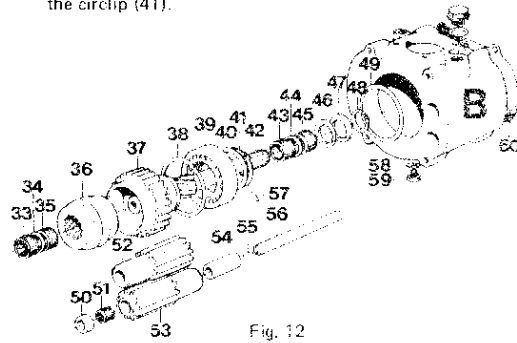

Fig. 12
1. Fit the circlip (38, Fig. 12) in the housing.
2. Press the bearing (39) into the housing with drift 884500.
4. Press the gear wheel (37) in the bearing (39) with drift 884263. NOTE! Counterhold 884488 must be placed against the bearing inner race. Make sure when doing so that the gear wheel teeth mesh with the teeth of the planetary gear.
5. Shims (40) are available in two thicknesses: 0.05 mm and 0.50 mm (0.002 and 0.02"). Add a sufficient number of shims to remove all clearance. Then remove a 0.05 mm (0.002") shim. Lock the gear wheel with the circlip (41).
1. Knock the guide pin (55, Fig. 12) into the front housing so far that it projects about 2 mm (0.08") above the line separating the front housing from the intermediate housing.
Assembling the front housing and intermediate housing MSB (Figs. 12 and 14)
1. Screw in the oil drain plug (59, Fig. 12). NOTE! Use the aluminium washer.